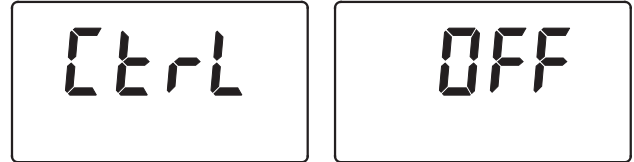

FIG. 29
2. Press the SELECT button six times, until "Ctrl" flashes in the display (See Figure 29).